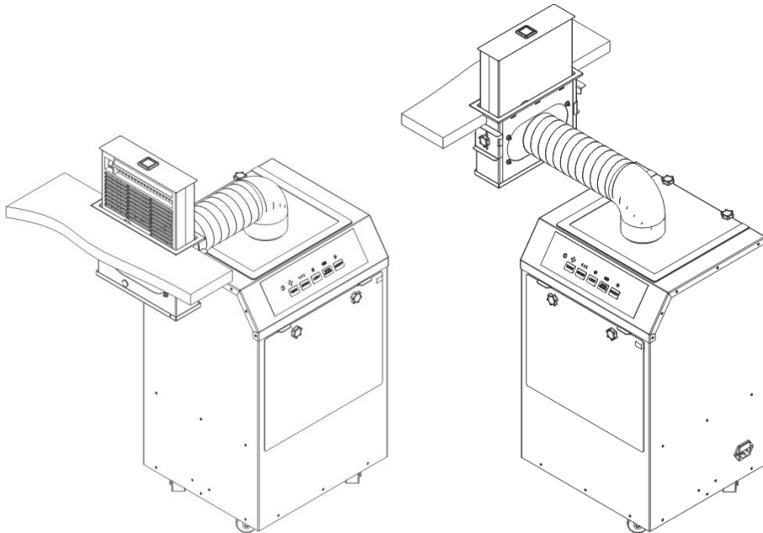

Fig. 12 – Duct Connection to HealthyAir[®] Unit
5.12 Duct the outlet of the Source Capture[®] Vent to the inlet of the HealthyAir[®] Air Purification System, as shown in Fig. 12.